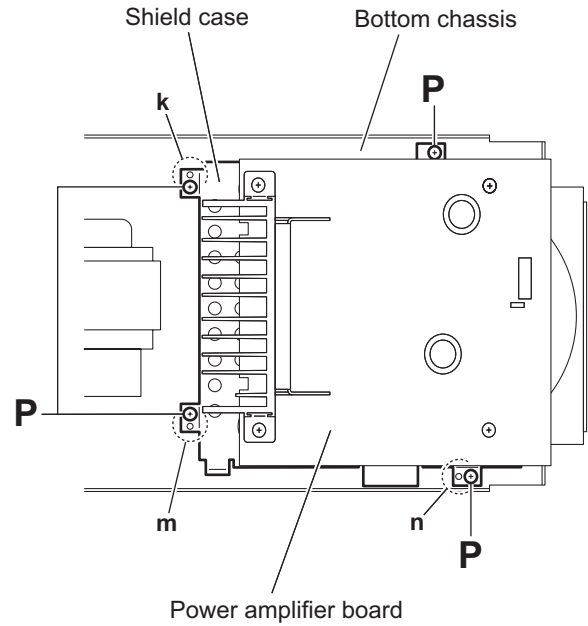

Fig.20
3.1.12 Removing the CD mechanism assembly (See Figs.20 and 21)
(1) From the top side of the main body, remove the four screws **P** attaching the shield case to the bottom chassis. (See Fig.20.)
When attaching the shield case on the bottom chassis, align the projections (**k**, **m**, **n**) of the bottom chassis in the holes of the shield case. (See Fig.20.)